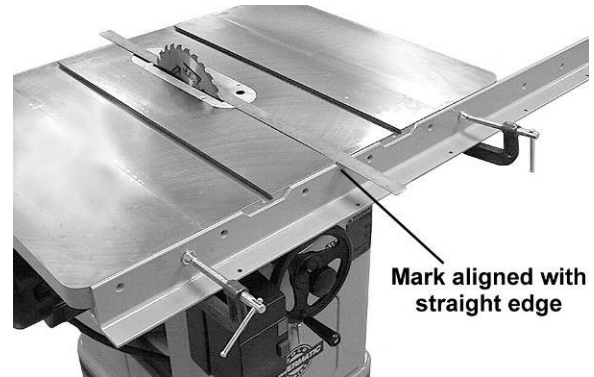

Figure 7-2
3. Lay a straight edge flush against right side of saw blade, as shown in Figure 7-2, and place notched side of front rail against saw table as shown. Hold front rail to saw table with clamps.